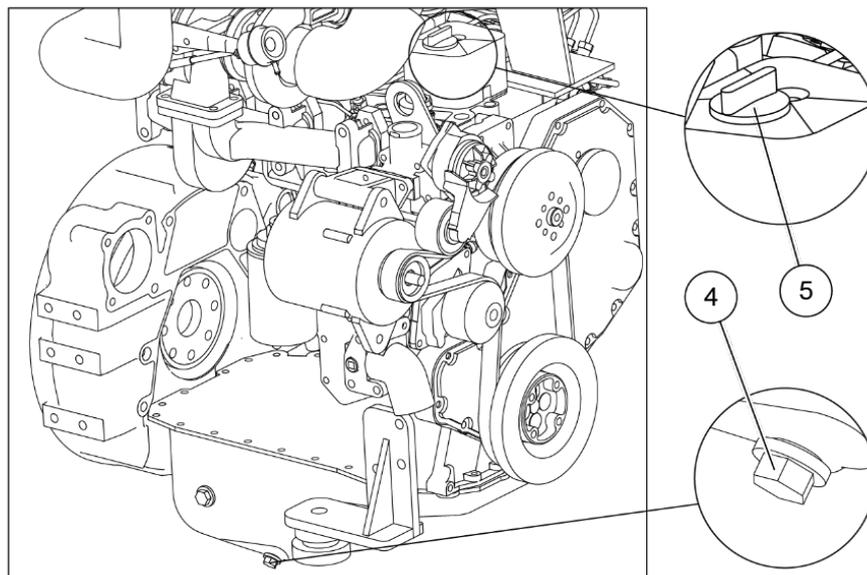

Figure 6-10 Engine
(2) Upper limit mark (3) Lower limit mark
Step 5: When the oil level is higher than the upper limit mark, unscrew the oil plug (4) to drain the excess oil; when the oil level is lower than the lower limit mark, add oil from the oil filler port (5) as shown in Figure 6-10;